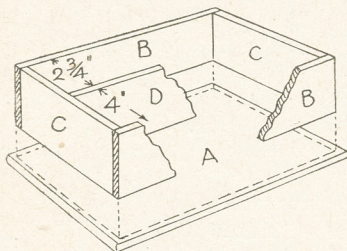

Fig. 2—Box construction
There is, however, no need to have an opening front, as the inside is easily got at by raising the main top lid. The whole construction of the box is very simple, as Fig. 2 will show, and here are given the various parts all lettered up corresponding with the cutting list which is given at the end of this article.
The actual box measures 12ins. long by 7½ins. wide by 3ins. deep. These dimensions, of course, may be varied to suit any particular size or shape dressing table or bed-side table. The box, as can be seen from Fig. 2 consists of floor (A), two sides (B), two ends (C), partition (D), the lid (E) and (F), and a pediment rail (G).